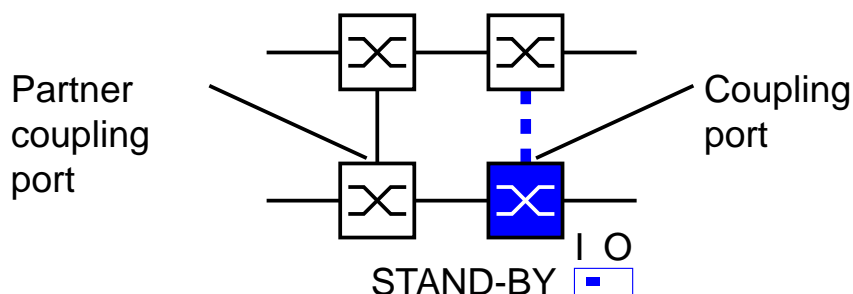

Fig. 21: Two-switch coupling
- Select the two-switch redundant coupling (see Fig. 21).